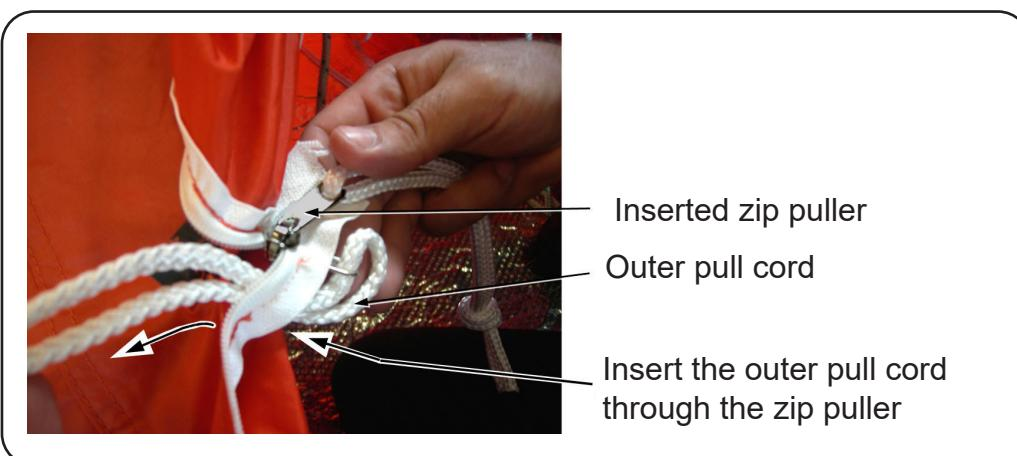

FIGURE 410
- 4.1.14 Route the outside zip puller cord through the zip pullers so that it is not trapped inside. Refer to FIGURE 410.